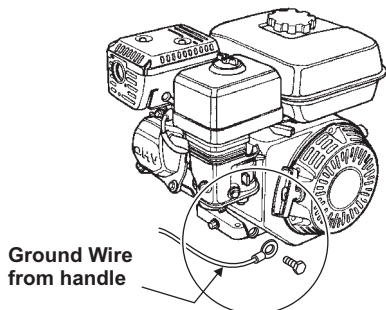

Figure 11. Ground Wire Connection
3. Install the ground wire to the engine, (Honda engine shown, Figure 11).